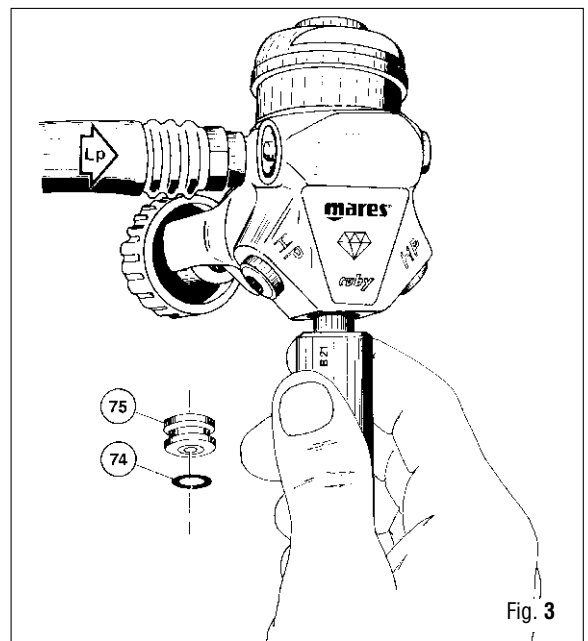

Fig. 3
- 23. Adjust demand lever height using the demand lever height gauge. The demand lever height gauge sides are marked with the second stage model. Place the side of the demand lever height gauge marked with the corresponding model across the second stage case (Fig 3).
6. Put on the First Stage seat (75) the special tool (B21), pressing it. Introduce compressed air (less than 7 bar - 101.5 psi) in a low pressure inlet. (Fig.3)